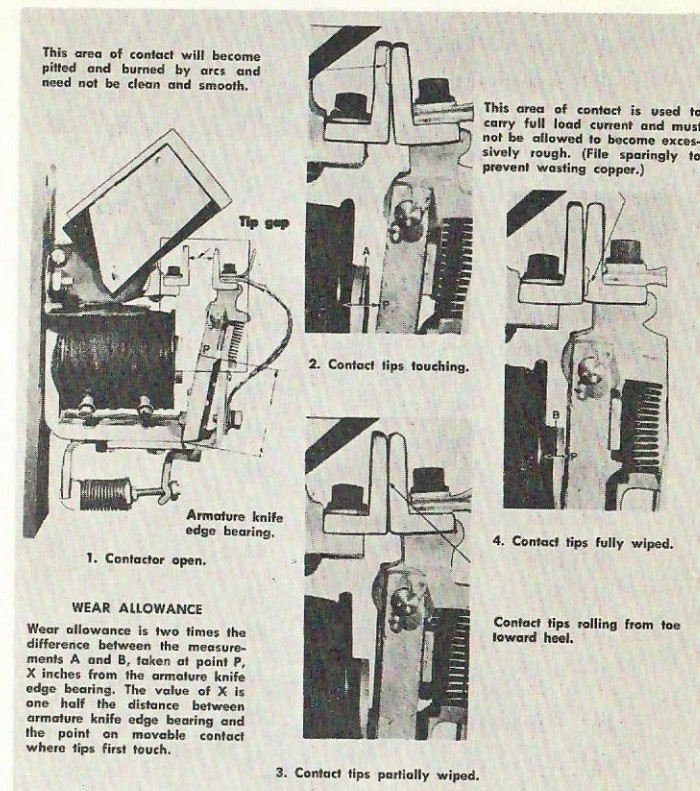
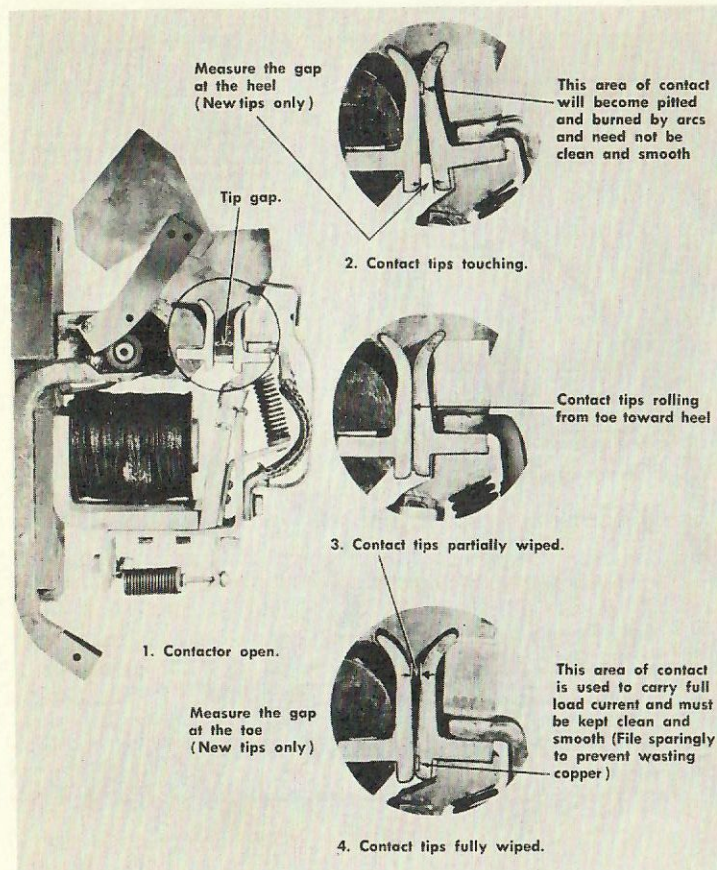

Fig. 1-13
Fig. 2-13
1. Smooth burned or beaded surfaces with a small fine file. It is not necessary to remove small pits. Be sure that full contact is obtained across and between the contact surfaces after filing. See notes on Figs. 1-13 and 2-13.
3. For method of checking wear allowance on different types of contactors, refer to the following illustrations. Magnetic contactors - single pivoted (Fig. 1-13). Magnetic contactors - double pivoted (Fig. 2-13).